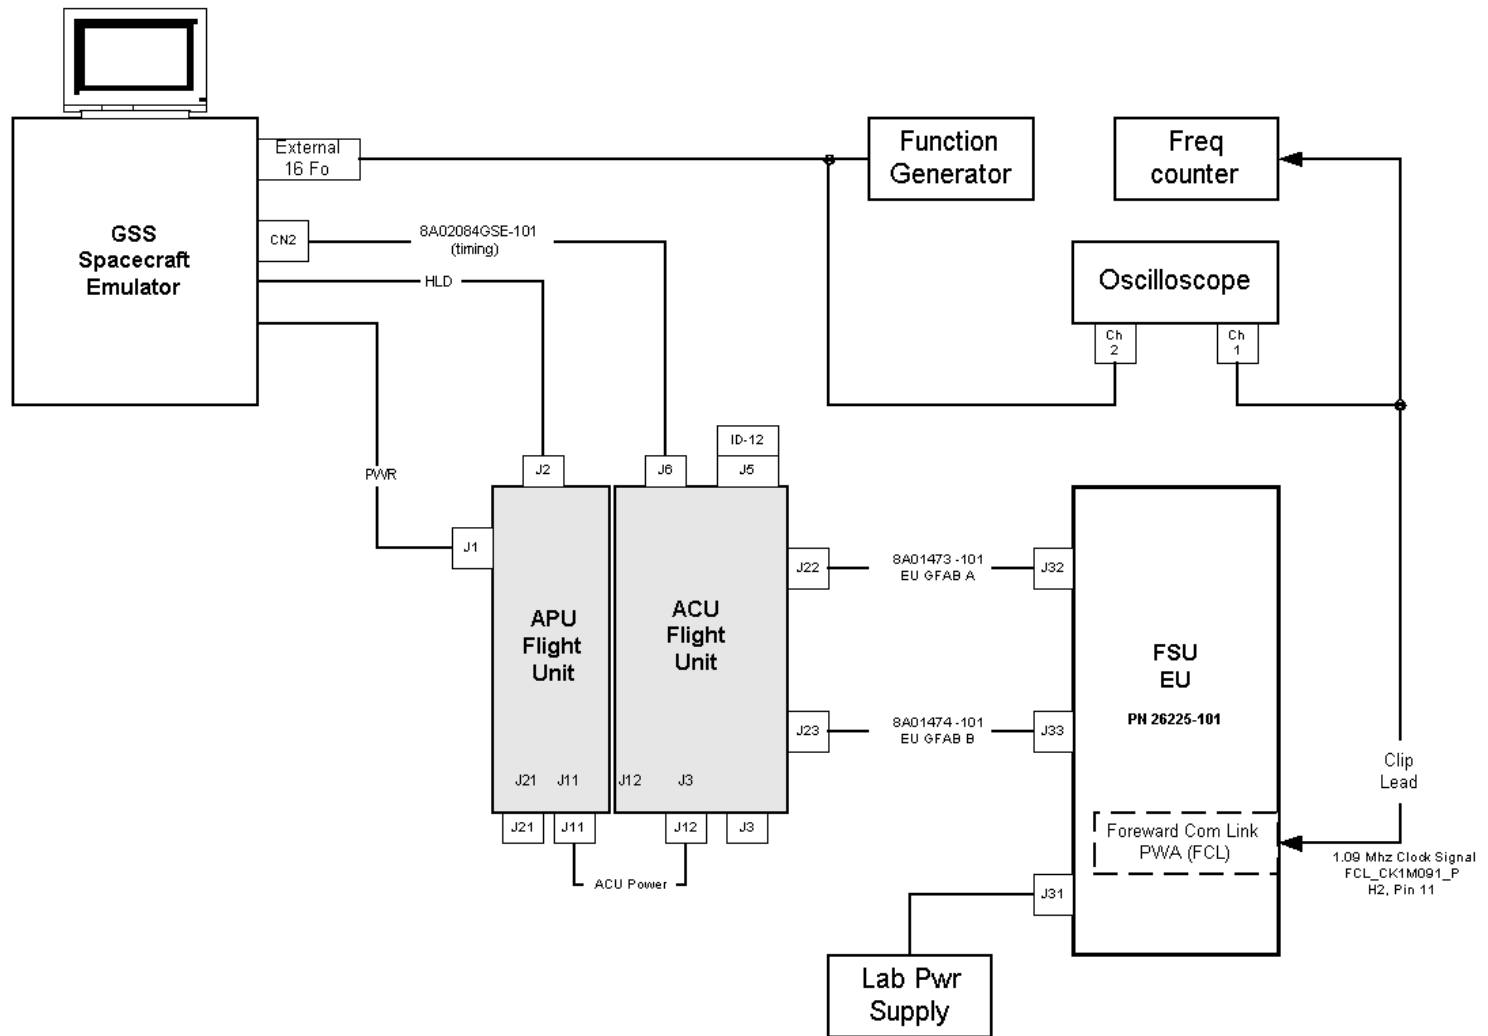

Figure 1 Clock Test Setup
The test methodology is to connect a EU FSU box to a Flight ACU and spacecraft emulator, and measure the 16fo/15 clock on the FSU Forward Comm Link (FCL) board, and multiplying the result by 15 to obtain the ACU clock frequency. Where applicable, an external clock will be provided from an external function generator to the Spacecraft Emulator (See Figure 1).
12.1.3 Connect FSU to ASU (DUT) and GSE as shown in Fig. 1.